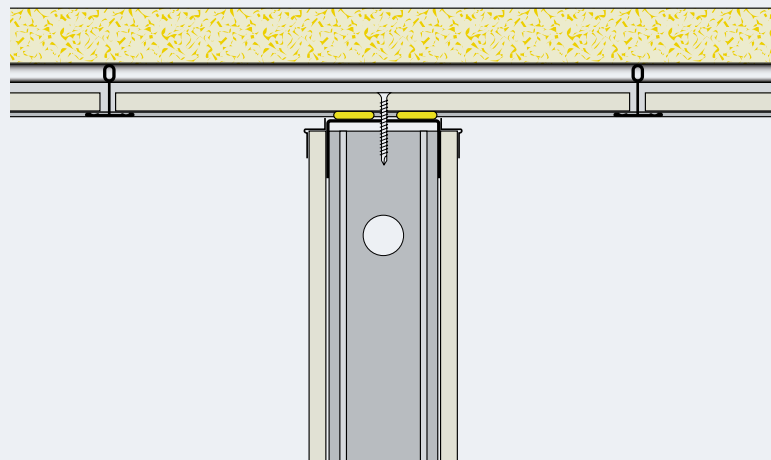

Figure A1: Sound rated insulation above top most ceiling.
- 75 mm non-combustible glass wool batts are used 1200 mm either side of the acoustic rated wall, refer Figure A1.